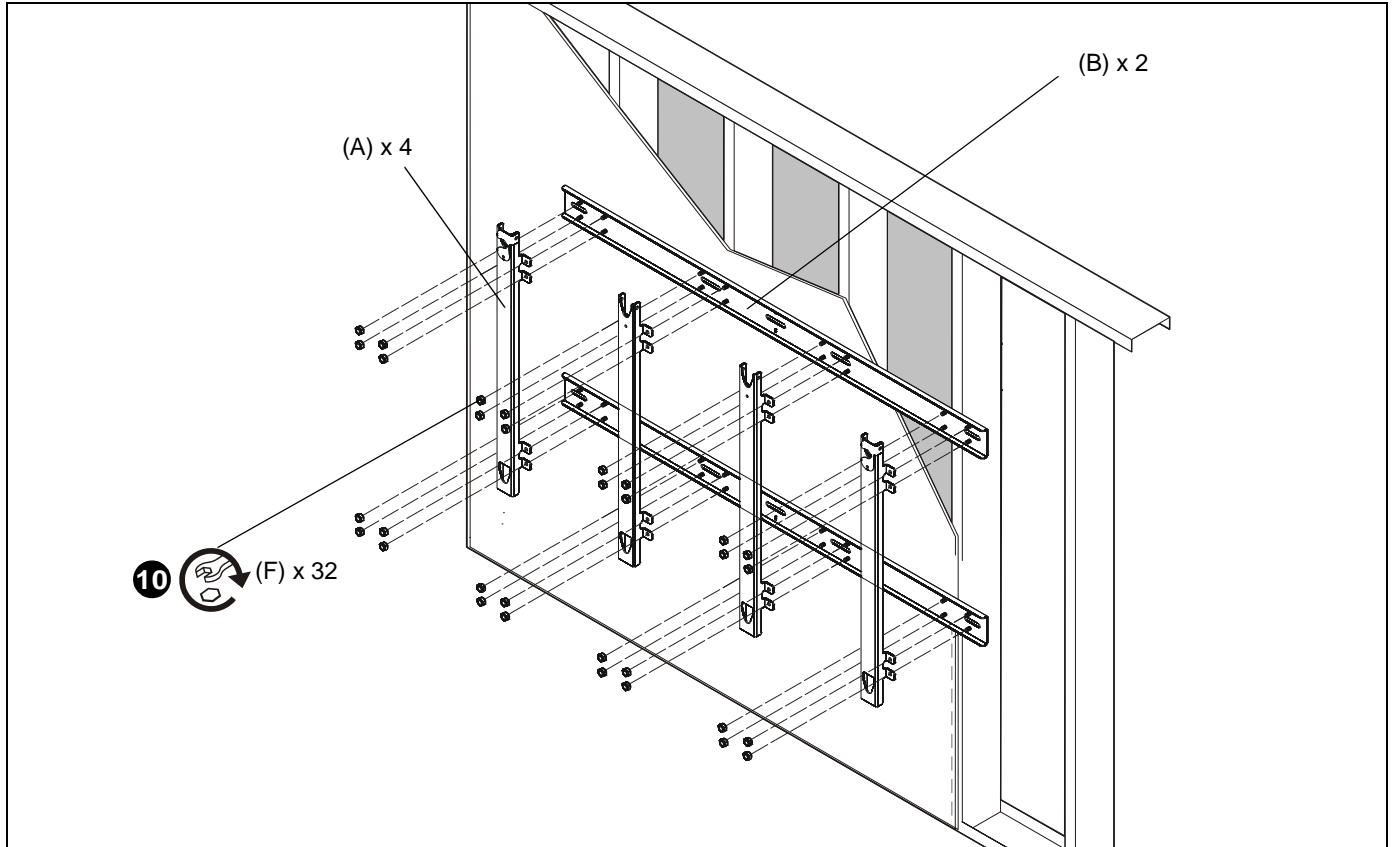

Figure 4
10. Attach four vertical brackets (A) to two horizontal brackets (B) using remaining thirty-two M8 nylon lock nuts (F). The vertical brackets with locking flags installed must be attached as the outer two brackets. (See Figure 4)